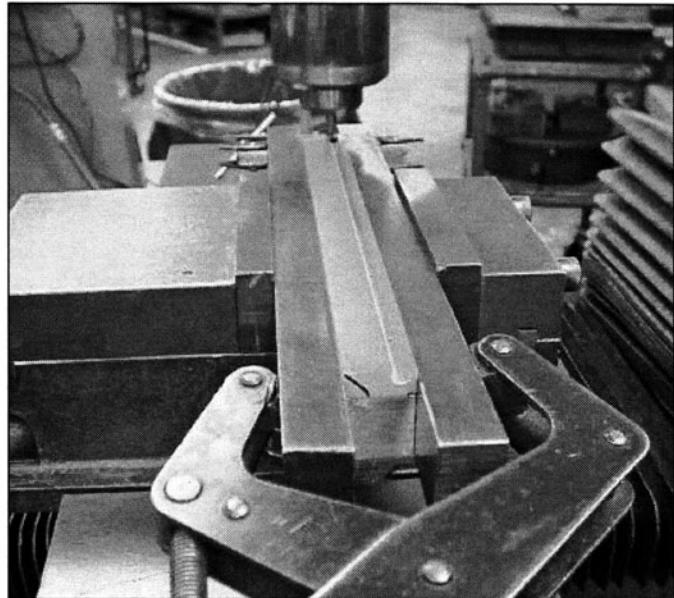

FIGURE 3-17 Long parallels can be used to support long parts.
22. Use long parallels to support long parts. (See Fig. 3-17)